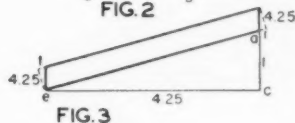

FIG. 3
C.e. is simply the hypotenuse of the triangle b.c.e. The end cut therefore on a hip rafter is 1x4.25 as seen in Fig. 3.